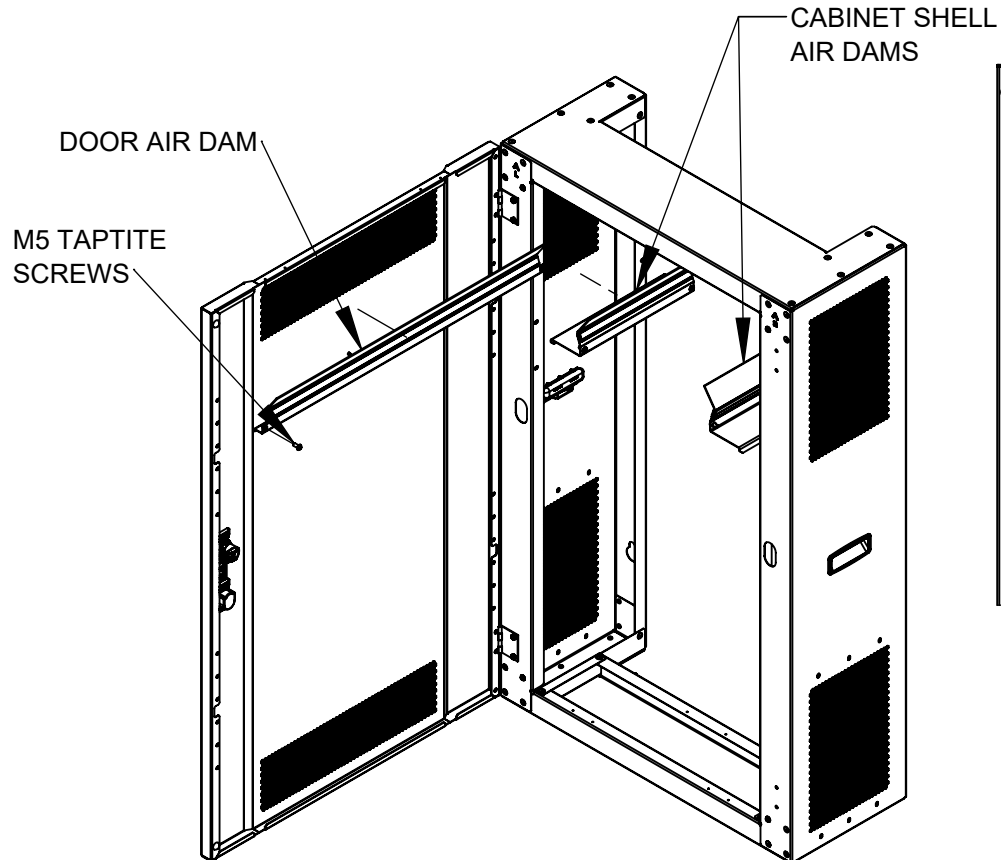

Fig. 14
The included Air Dams (Fig. 14) install onto the Cabinet Shell and Door using (2) M5 TapTite Screws each with a T25 Torx Driver.